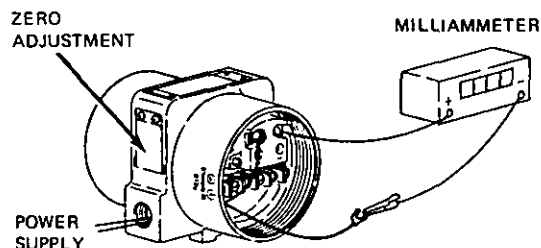

Figure 21.
1. Insert a 4-digit $\pm 0.1\%$ milliammeter into the supply-receiver loop (see Figure 21).